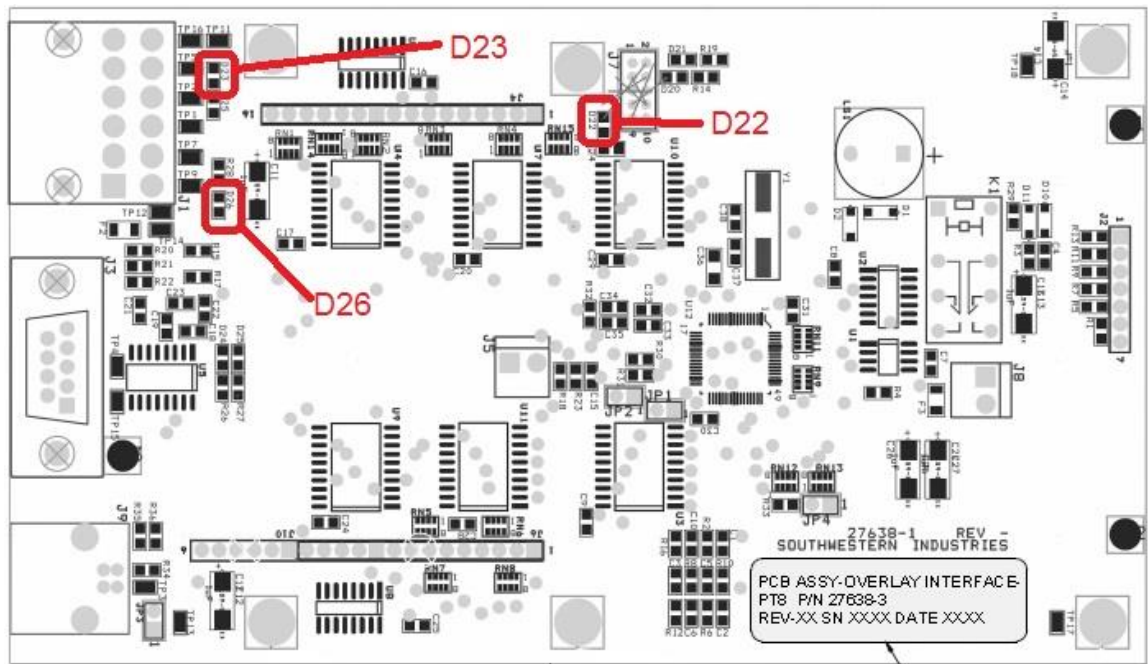

Figure 5.4e – Overlay Interface Board
8. LED Lights – The overlay interface board has a few LED lights that can be used for troubleshooting. See figure 5.4e **for location of LED's on board.**